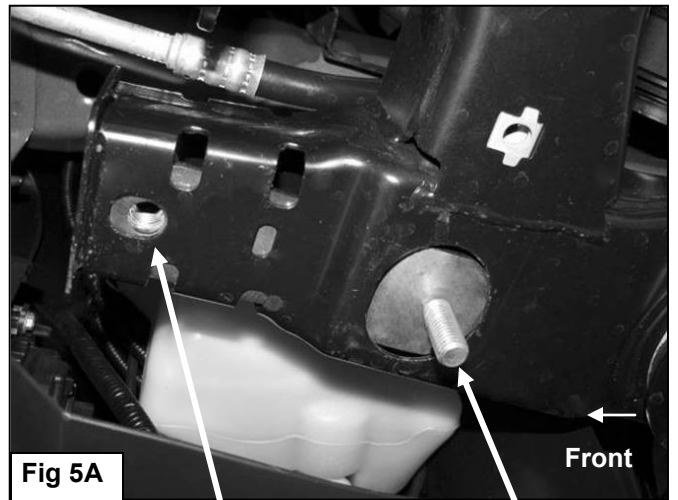

Fig 5A
4. Move to the passenger side of the vehicle. Determine if the vehicle is equipped with the factory installed fresh air inlet in the plastic bumper cover. Vehicles without air inlet: Repeat Steps 2 & 3 for passenger side Frame Mounting Bracket installation, (Figures 5A, 5B & 5C). Vehicles equipped with air inlet, (Figure 6): Repeat Step 2 to install the M12 Bolt Plate and M12 Nut Plate. Hold the Frame Bracket in the approximate position over the Bolt and Nut Plates. Mark the outline of the Bracket onto the mounting tab on the plastic air inlet, (scoop), (Figure 7). Remove the inlet and place it on a clean, stable work surface. Use a hacksaw to cut the required material from the mounting area on the inlet. Check the fit often and trim material away as necessary. Do not cut off the mounting tab. Carefully pry off the metal clip and move it as indicated in Figure 7 or drill a 1/4" hole through the top and bottom of the scoop and replace the clip with the included (1) M5x 25mm Screw, (2) M5 Flat Washers and (1) M5 Nylon Lock Nut. Do not over-tighten 5mm hardware. IMPORTANT! Any cutting tool may break or shatter. Government regulations require safety glasses & equipment at all times when cutting. Install the Frame Bracket as described in Step 3. NOTE: Complete the Grille Guard installation before reinstalling the plastic air inlet scoop, (Step 15). NOTE: Before proceeding, it may be considerably easier to remove the plastic bumper cover to cut the slots for the Grille Guard. However, the bumper cover may be held in place with rivets making removal and reinstallation very difficult, (Figure 6). Determine if the bumper is held in place with rivets, (visible from the outside-below the fog lights), before attempting to remove the bumper cover.